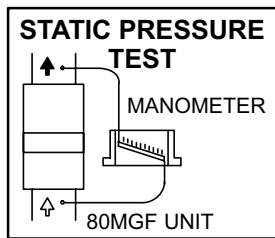

FIGURE 24
- 1 - Measure tap locations as shown in figure 24.